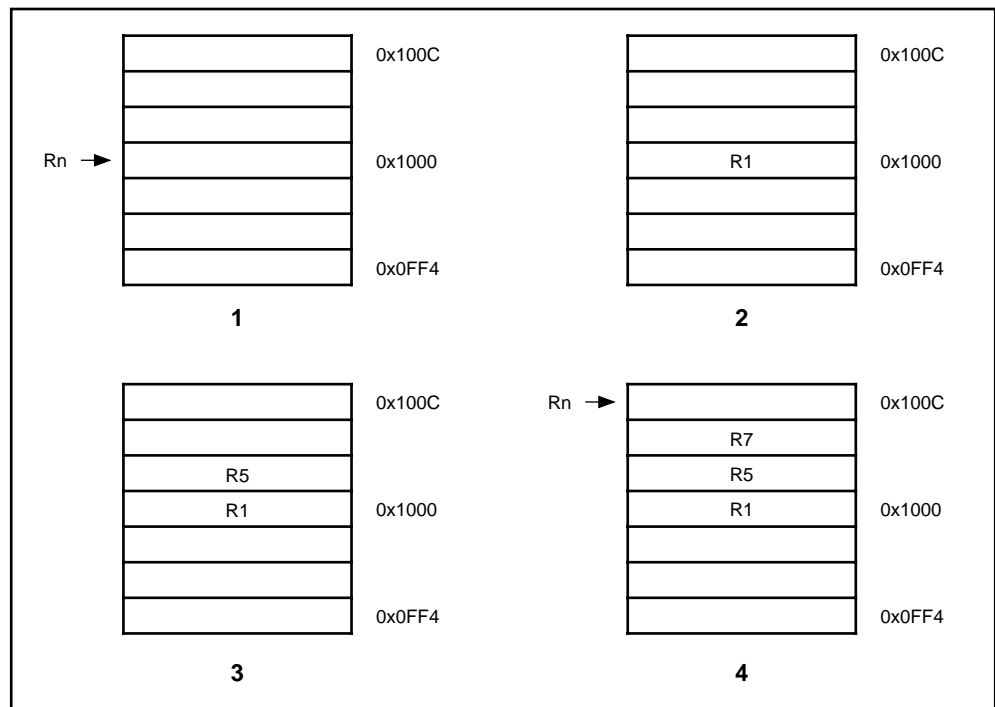
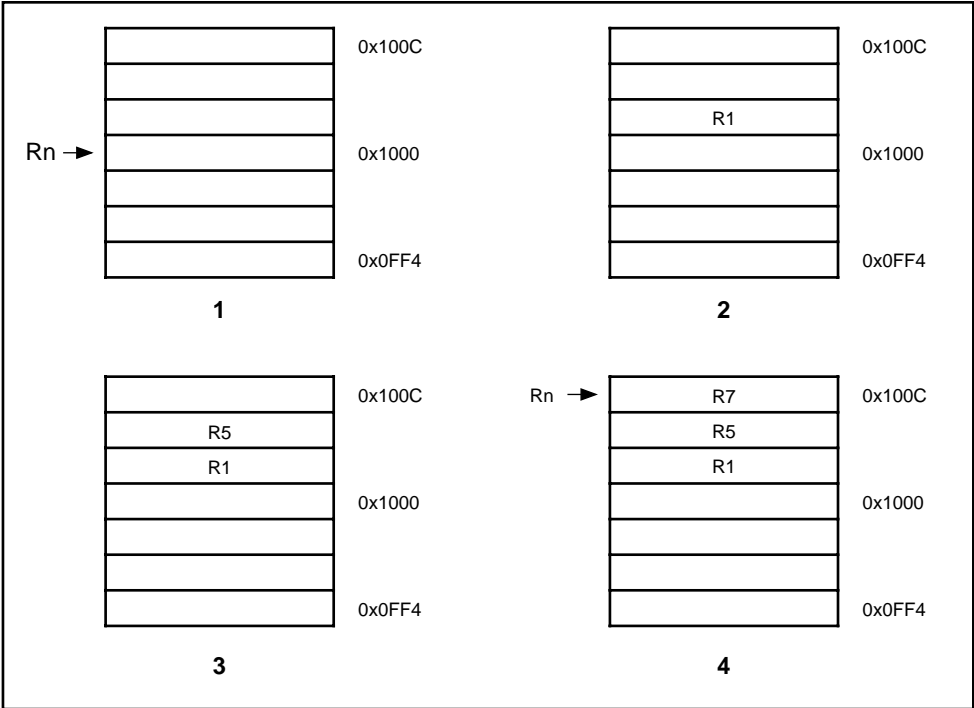
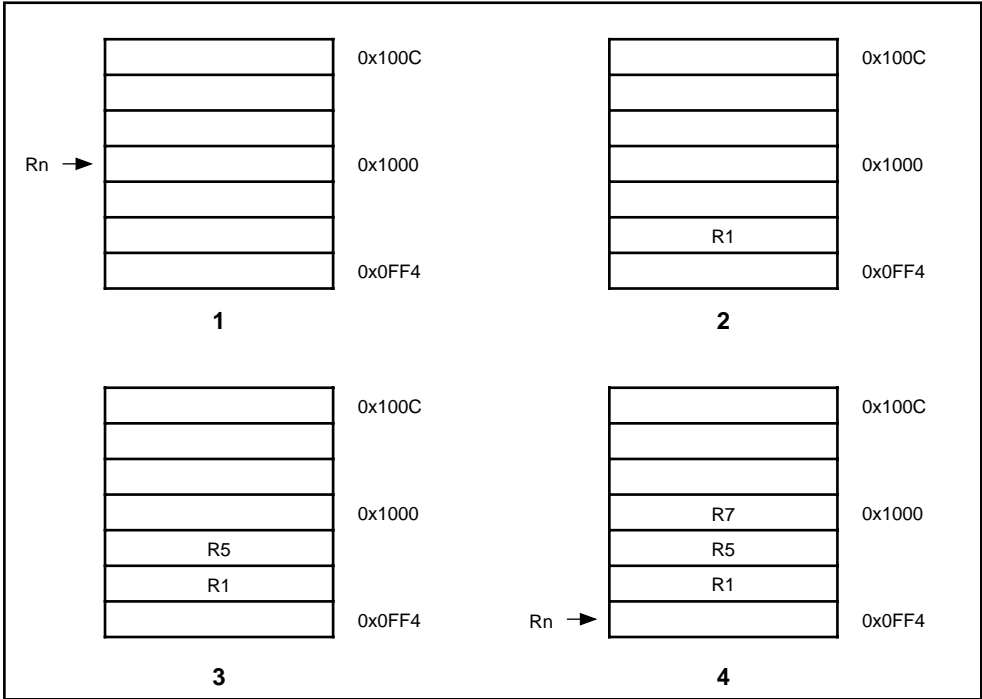
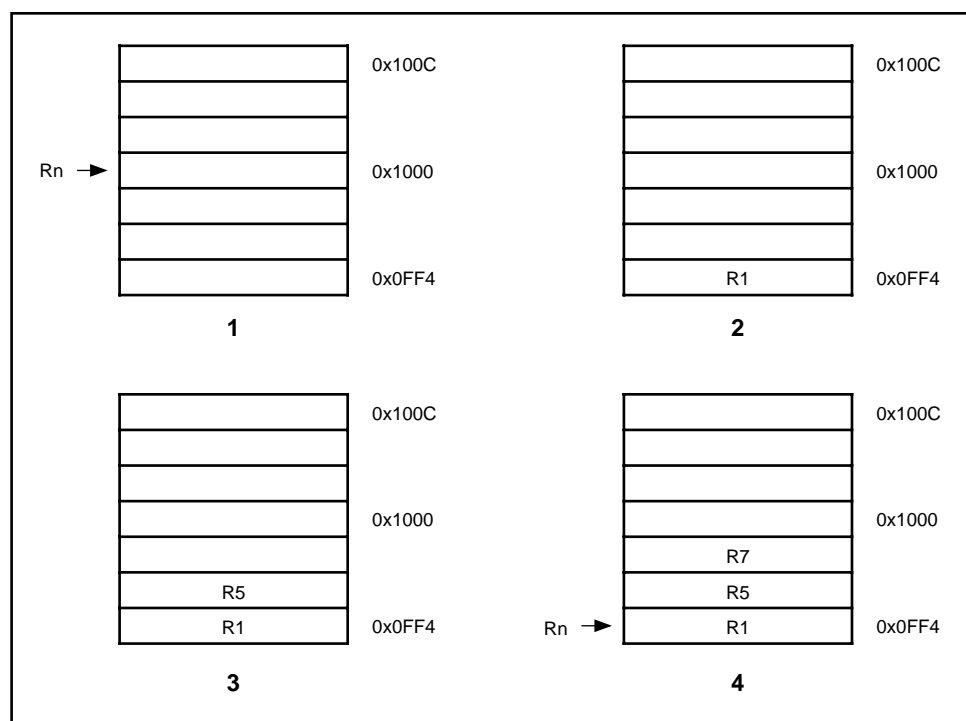

Figure 4-17: Post-increment addressing
Figure 4-18: Pre-increment addressing
Figure 4-19: Post-decrement addressing
Figure 4-20: Pre-decrement addressing
The transfer addresses are determined by the contents of the base register (R_n), the pre/post bit (P) and the up/down bit (U). The registers are transferred in the order lowest to highest, so R_{15} (if in the list) will always be transferred last. The lowest register also gets transferred to/from the lowest memory address. By way of illustration, consider the transfer of R_1 , R_5 and R_7 in the case where $R_n=0x1000$ and write back of the modified base is required ($W=1$). *Figure 4-17: Post-increment addressing*, *Figure 4-18: Pre-increment addressing*, *Figure 4-19: Post-decrement addressing* and *Figure 4-20: Pre-decrement addressing* show the sequence of register transfers, the addresses used, and the value of R_n after the instruction has completed.